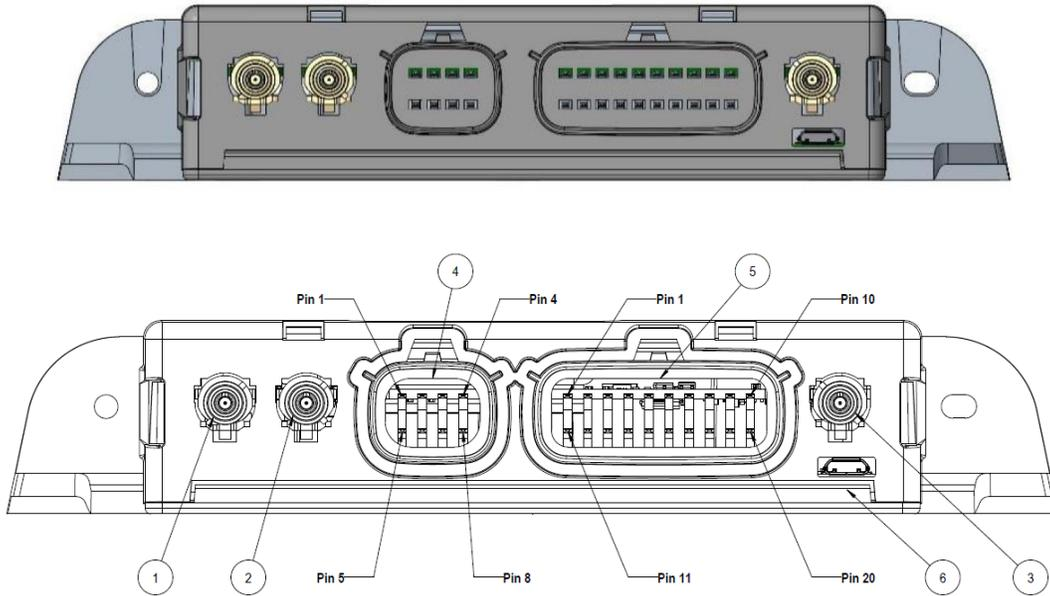

Figure 4.1-1
1. Identify 4 connector (8-pin connector) on the module (See Figure 4.1.1)
4. Identify connector 5 (20-pin connector) on the module (See Figure 4.1.1)